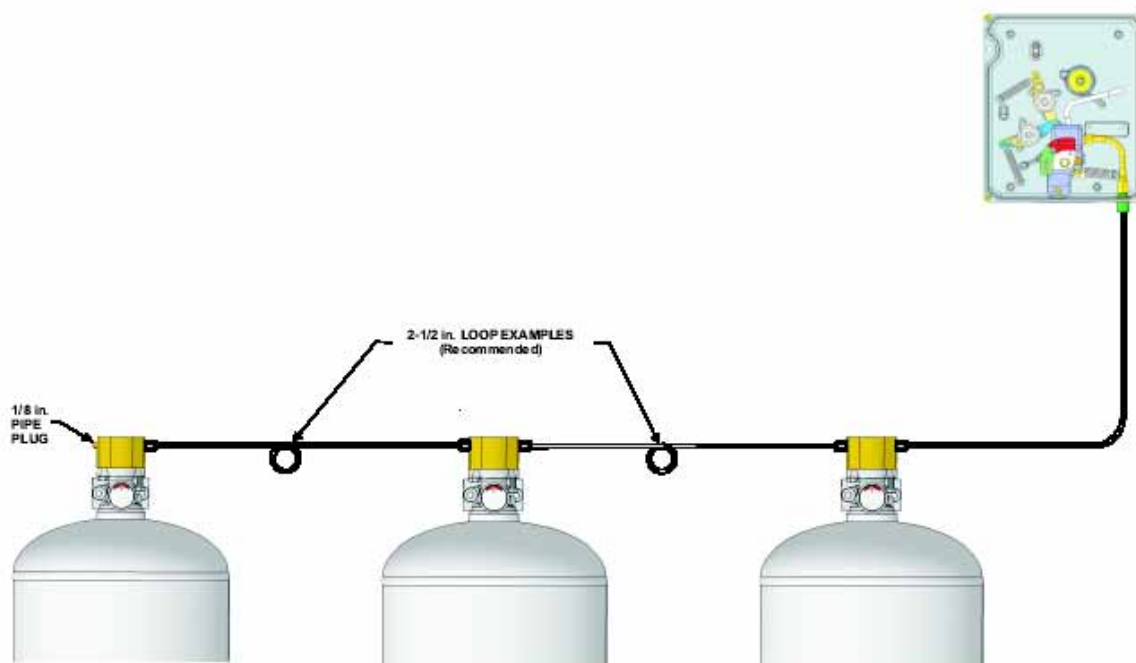

Figure 4-13. Example of Copper Tubing Loop Method
8. Install 1/8 NPT (M) x 1/4 copper tubing adapters. Compression type adapters are permissible.
9. Measure and install the 1/4 O.D. x 0.031 wall thickness copper tubing. A 2-1/2 inch (64 mm) loop between each cylinder and on the inlet tubing is recommended, but not required. See Figure 4-13. Ensure that each connection is secure.